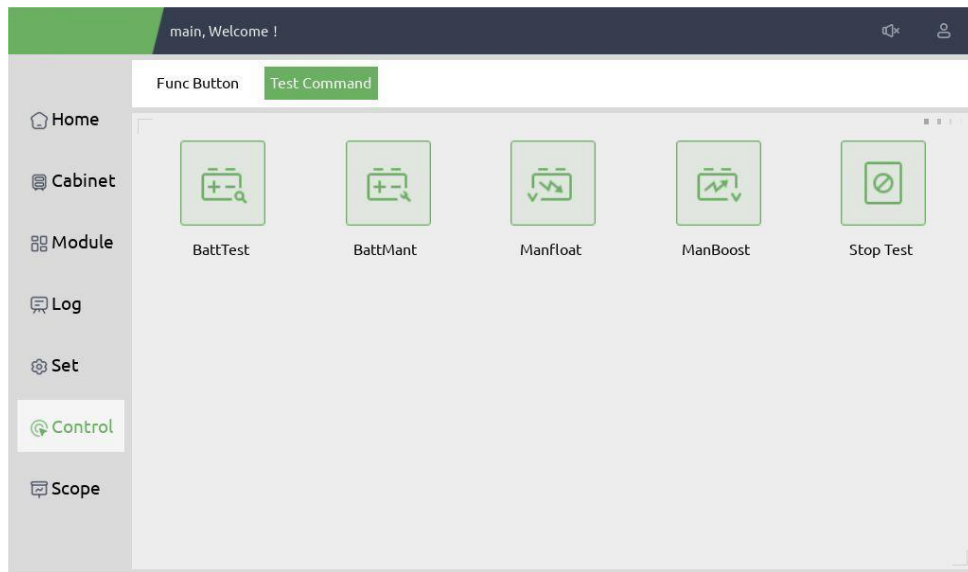

Figure 5-3 Battery maintenance
- 1) Manual discharging test. Enter the "Control" menu, as is shown in Figure 5-3 and touch